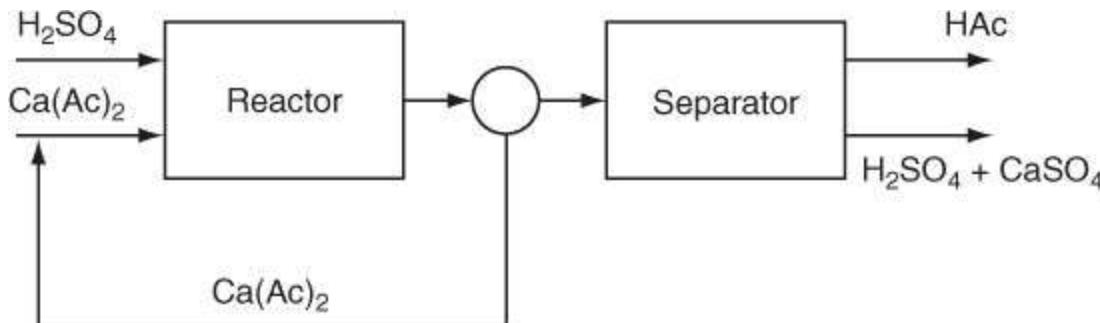

Figure P6.3.10
**6.3.10. Acetic acid (HAc) is to be generated by the addition of 10% excess sulfuric acid to calcium acetate (Ca(Ac)₂). The reaction $\text{Ca}(\text{Ac})_2 + \text{H}_2\text{SO}_4 \rightarrow \text{CaSO}_4 + 2\text{HAc}$ goes to 90% completion based on a single pass through the reactor. The unused Ca(Ac)₂ is separated from the products of the reaction and recycled. The HAc is separated from the remaining products. Find the amount of recycle per hour based on 1000 kg of Ca(Ac)₂ feed per hour, and also calculate the kilograms of HAc manufactured per hour. See Figure P6.3.10, which illustrates the process.